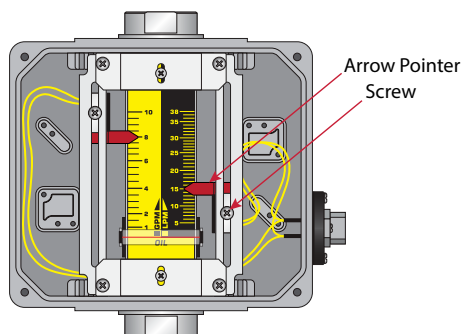

Figure 8: Reed switch adjustment (1/4...1-1/2 in. models)
2. Loosen the screw securing the switch assembly (see Figure 8).